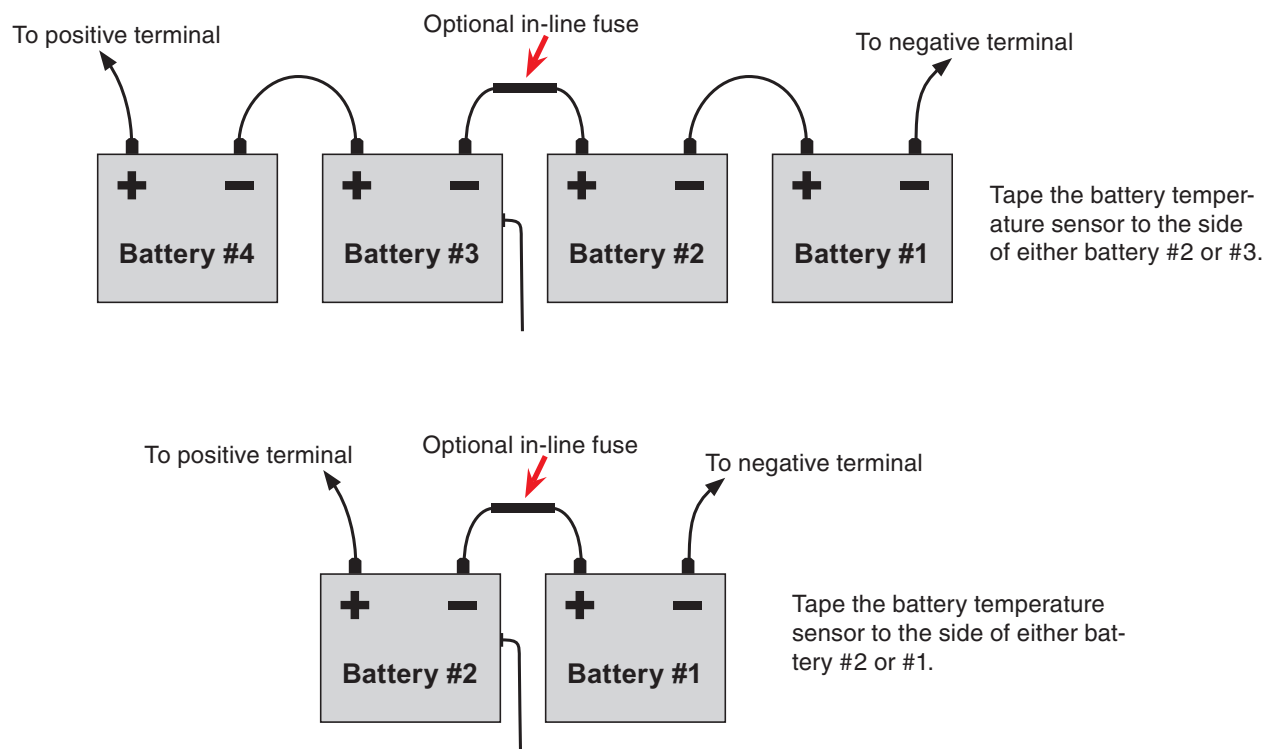

Figure 8 — External Battery Wiring (for 48 VDC string (top) and 24 VDC string)
2. Wire the batteries as shown in Figure 8. If used, install the in-line fuse as shown.
4. Route the sensor end of the battery temperature cable to the batteries. Tape it to the side of battery as shown in Figure 8.